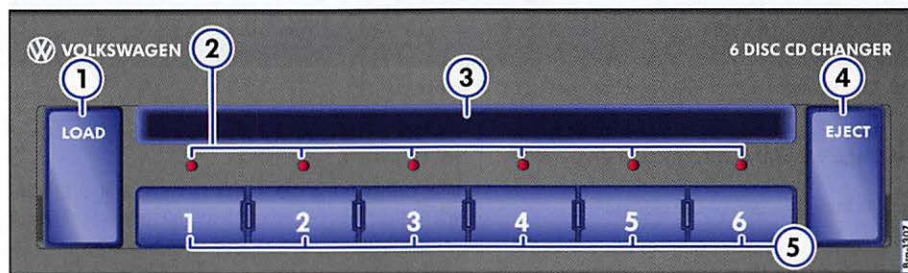

Fig. 25 External CD changer in the passenger side storage compartment or in the front center armrest.
- Press the **LOAD** button. The LED ⇒ fig. 25 ② above the next available CD slot flashes slowly.
- For manual selection of an available CD slot, press one of the device keys ① to ⑥. Otherwise, the next available slot is automatically provided.
- If the LED flashes rapidly, load an audio CD into the CD slot with the unprinted side facing towards the buttons ③, until the audio CD is automatically pulled in ⇒ ①.